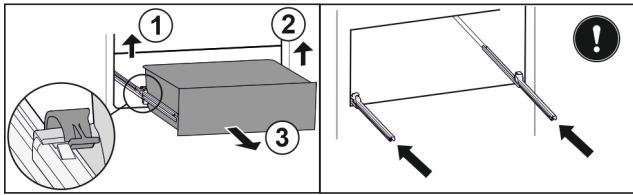

Fig. 84
- ▶ Lift left clamp and simultaneously pull drawer forwards on the left. Fig. 84 (1)
- ▶ Lift right clamp and simultaneously pull drawer forwards on the right. Fig. 84 (2)
- ▶ Remove drawer to the front. Fig. 84 (3)